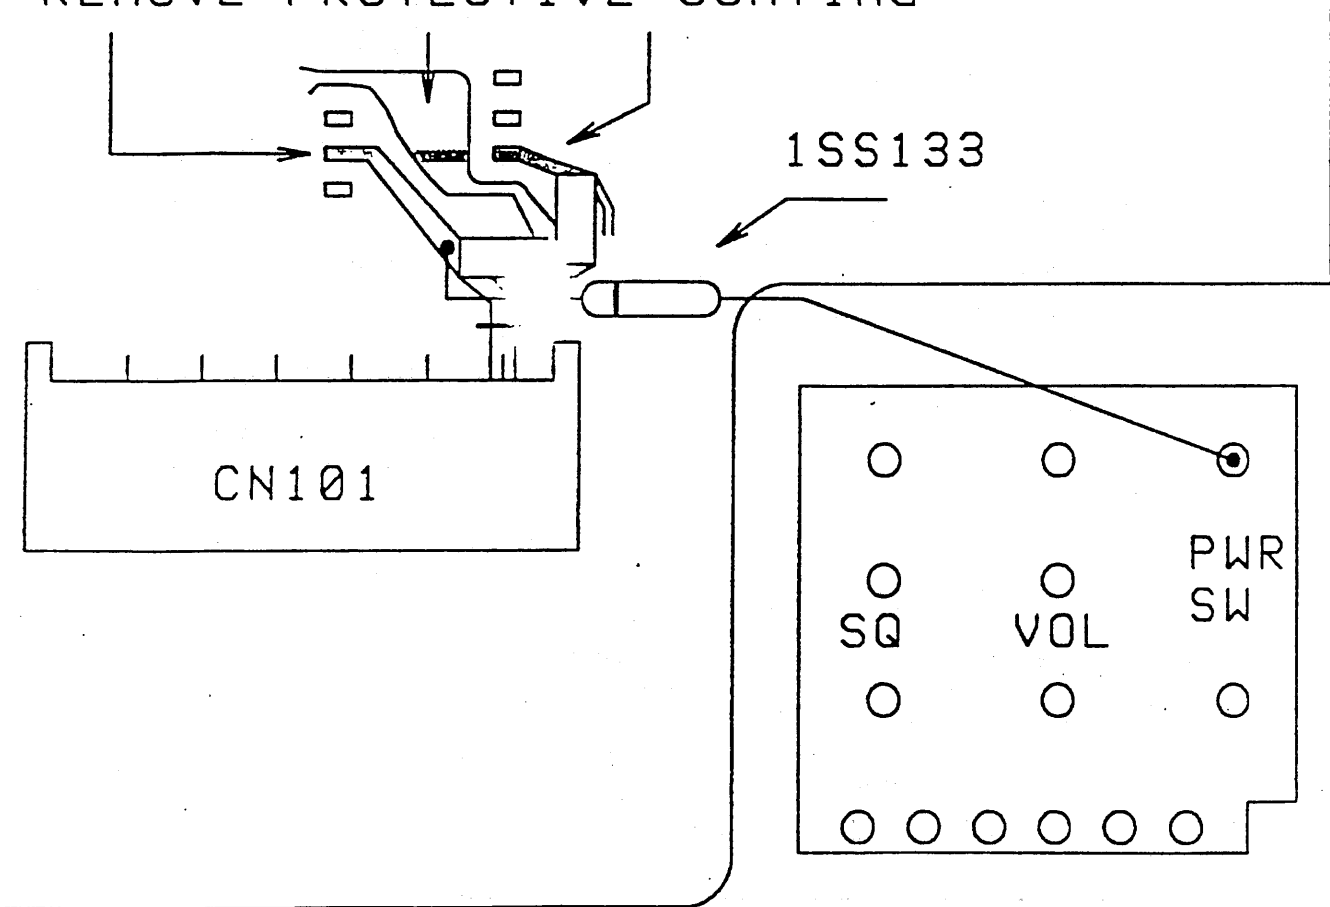

FIGURE 7
17. Prepare the 1SS133 diode for installation. The cathode lead will be cut and bent 90°. The diode must lay flat on the board and the cathode lead cannot touch the cut in the foil. Once the diode leads are prepared, solder the diode in place. **Figure 7**
19. The 6V AVR will be mounted in place where IC102 was located. The board must first be prepared for the installation. Remove the protective coating from the foils as shown in **Figure 7**. These are the foils that were connected to pins 2 and 7 of IC102 and the ground foil that runs under the device.